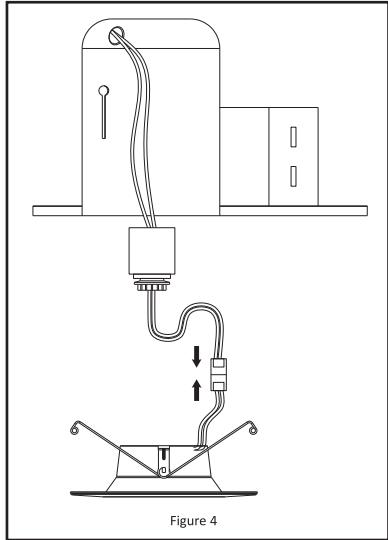

Figure 4
- Plug the fixture back into the Edison base adapter using the orange connectors. **See Figure 4.**